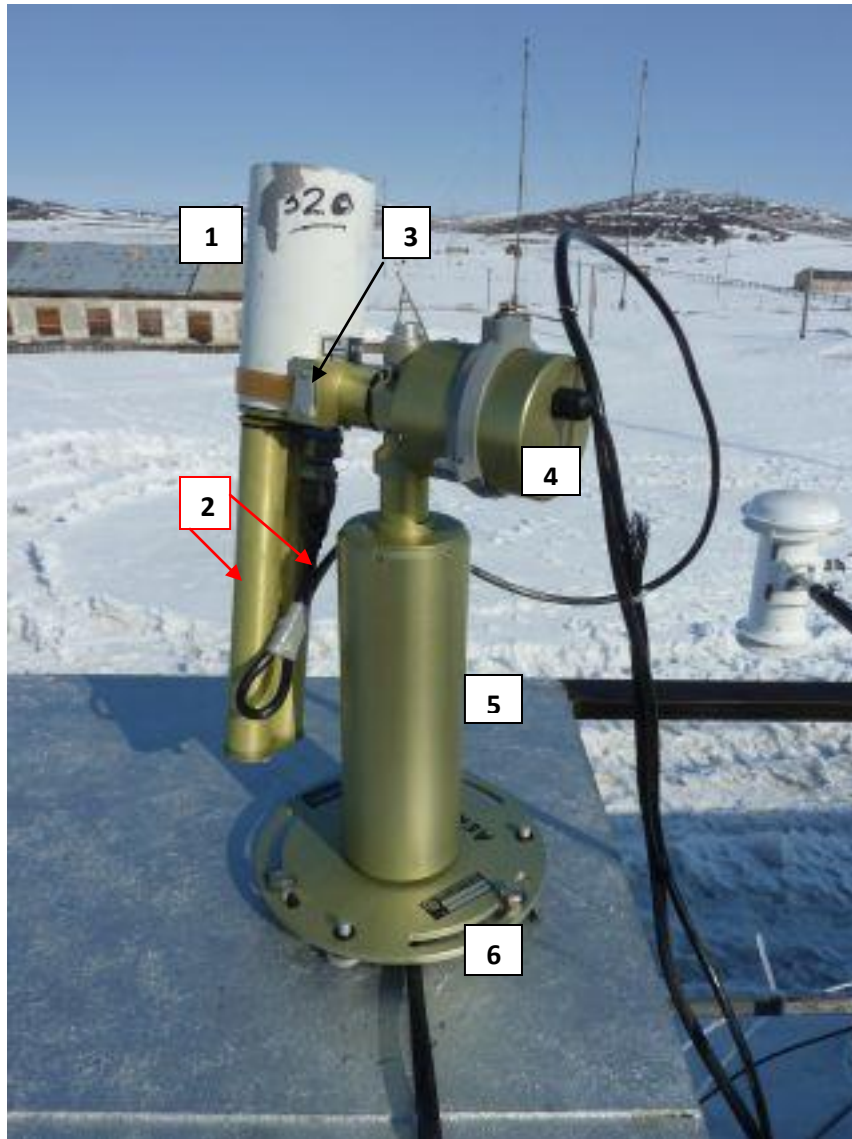

Figure 1
8. Attach the Photometer Cable to the Optical Head. Ensure a large loop is left to allow for smooth operation (see Figure 1). This will be checked and adjusted during the alignment phase.